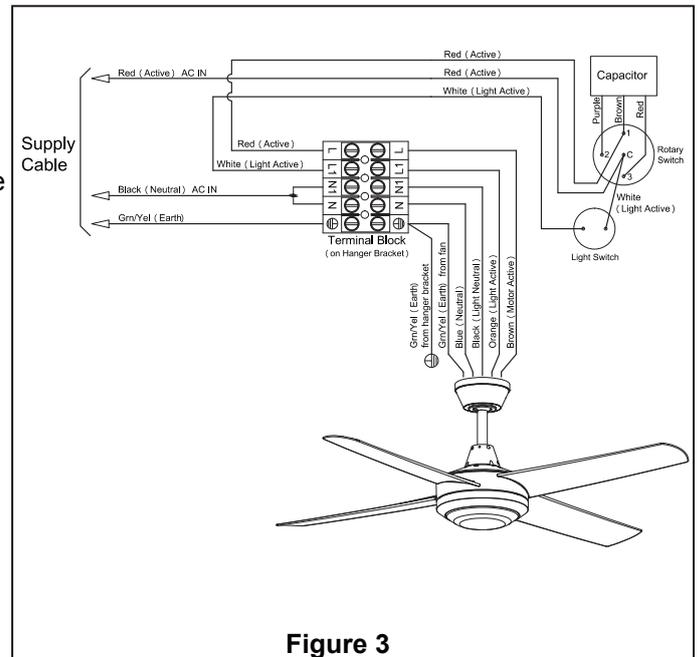

Figure 3
1. Securely connect the green/yellow earth wires from the hanger bracket and the supply green/yellow earth wire to the terminal block as shown in Figure 3.
2. Securely connect the blue fan motor wire and the black supply neutral to the “N” terminal of the connector block as shown in Figure 3.
3. Securely connect the black light wire (Light Neutral) and the the black (Neutral) supply wire to the “N1” terminal of the connector block. Securely connect the orange light wire (Light Active) and the white light wire (Active) to the “L1” terminal of the connector block. Securely connect the brown fan motor wire and the red (Active) supply wire to the “L” terminal of the connector block as shown in Figure 3.
2. Ensure wiring connections are as shown in Fig 3. The Active (Red) supply wire must be connected to terminal “C” on the rotary switch. Return switched wire to ceiling fan to be connected from terminal “1” on the rotary switch to “L” terminal on the connector block.